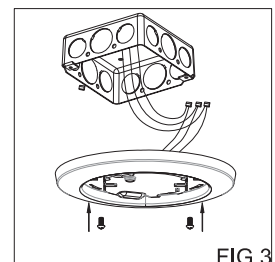

FIG.3
4. Connect the wires: Black to Black, White to White, Green to Green. Secure the connection with Wire Nuts. Tuck all the wires into the Outlet box. (FIG.3)